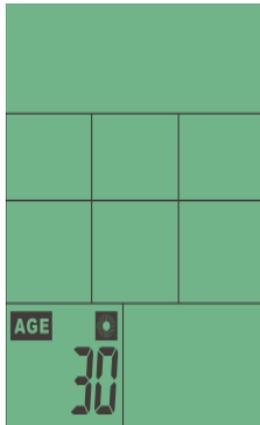

Fig13
- B. AGE continues to light on ,age value flashes and press UP or DOWN to set up AGE(Fig13) . Press ENTER to confirm ,buzzer rings for 1s,**TARGET HEART RATE**, HEART RATE continues to light on, MAX HR continues to light on and shows heart beat at 65% and 85% .TIME、DISTANCE、CALORIES、WATTS、SPEED、RPM start to count by operation value